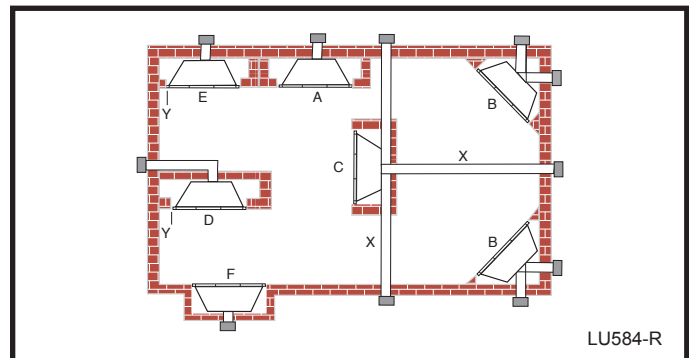

Fig. 1 Locate gas fireplace.
NOTE: (Fig. 1)
** Island (C) and Room Divider (D) installation is possible as long as the horizontal portion of the vent system (X) does not exceed 20' (6 m) with a minimum vertical of 4' (122 cm). See details in Venting Section.
* When you install your fireplace in (D) Room divider or (E) Flat on wall corner positions (Y), a minimum of 6" (153 mm) clearance must be maintained from the perpendicular wall and the front side edge of the fireplace. Refer to (Y) in Figure 1.